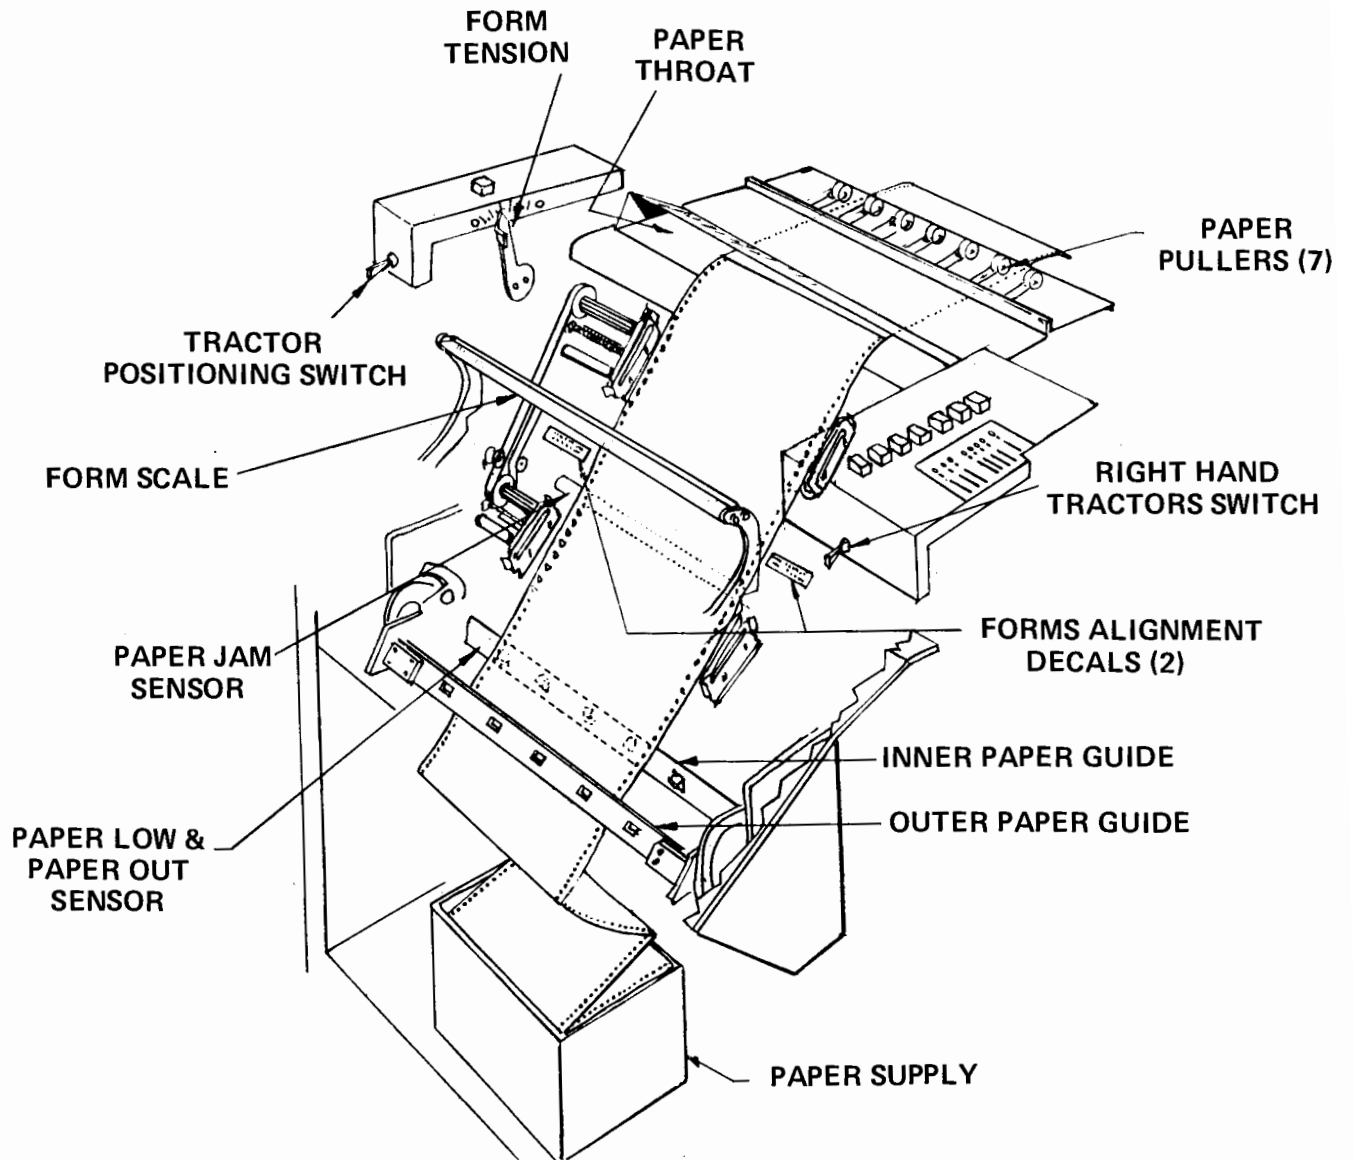

Figure 4-2. Paperfeed Path and Adjustments
3. Referring to Figure 4-2, set the paper tractors to their approximate
8. Referring to Figure 4-2, horizontally position the paper tractors and form to the desired print location by using the left-hand ALL TRACTORS switch.